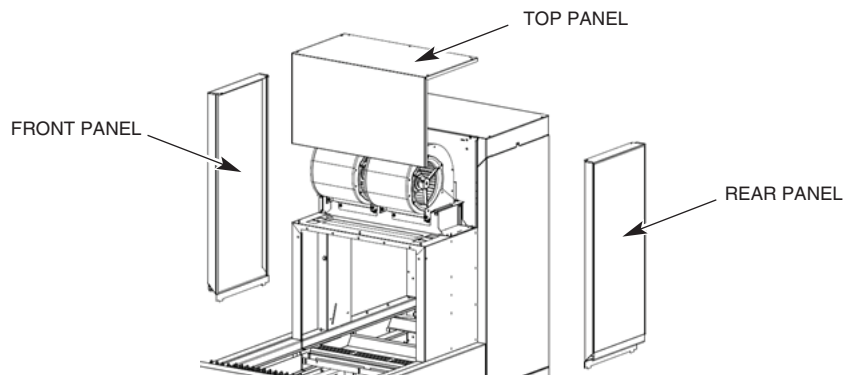

Fig. 24
1. Remove the blower dryer cover panels; front, rear, and top (Fig. 24).